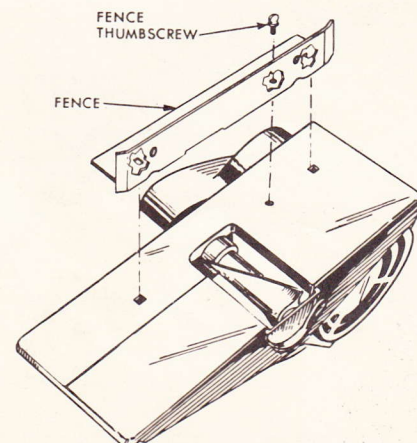

Fig. 7
**FENCES:** To install fence, position fence on plane base so the projections on fence fit into the square holes in the base as shown in Fig. 7. Insert thumb screw through hole in fence and screw it securely into the threaded hole in plane base.